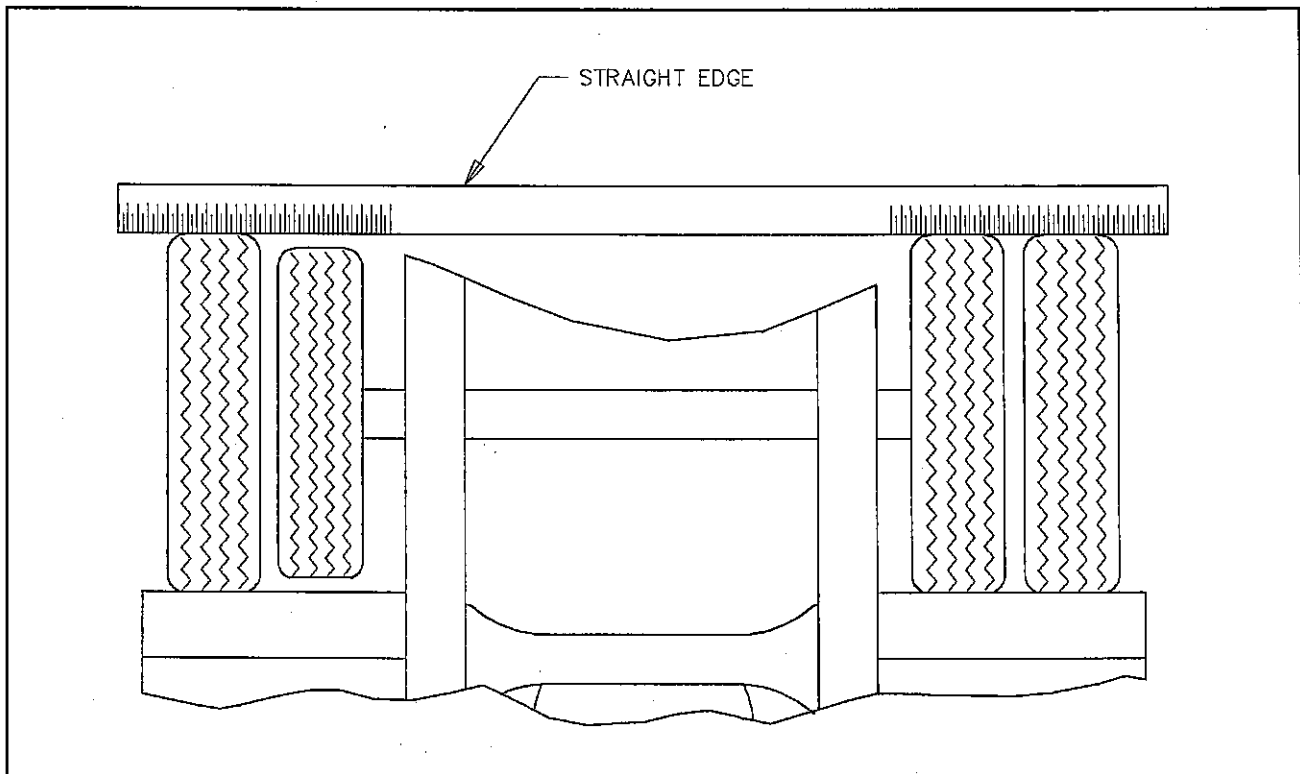

Fig. 4-12 Straight Edge Method
b. Straight Edge or String Method: (This method can not be used if tire and wheel assemblies are not mounted on the axle.) Jack trailer up until the wheels are off of the ground. Hold a straight edge against the tires of both ends of an axle. A gap at one tire indicates a smaller tire. A maximum of $1/8$ " gap is allowed (See Figure 4-12).